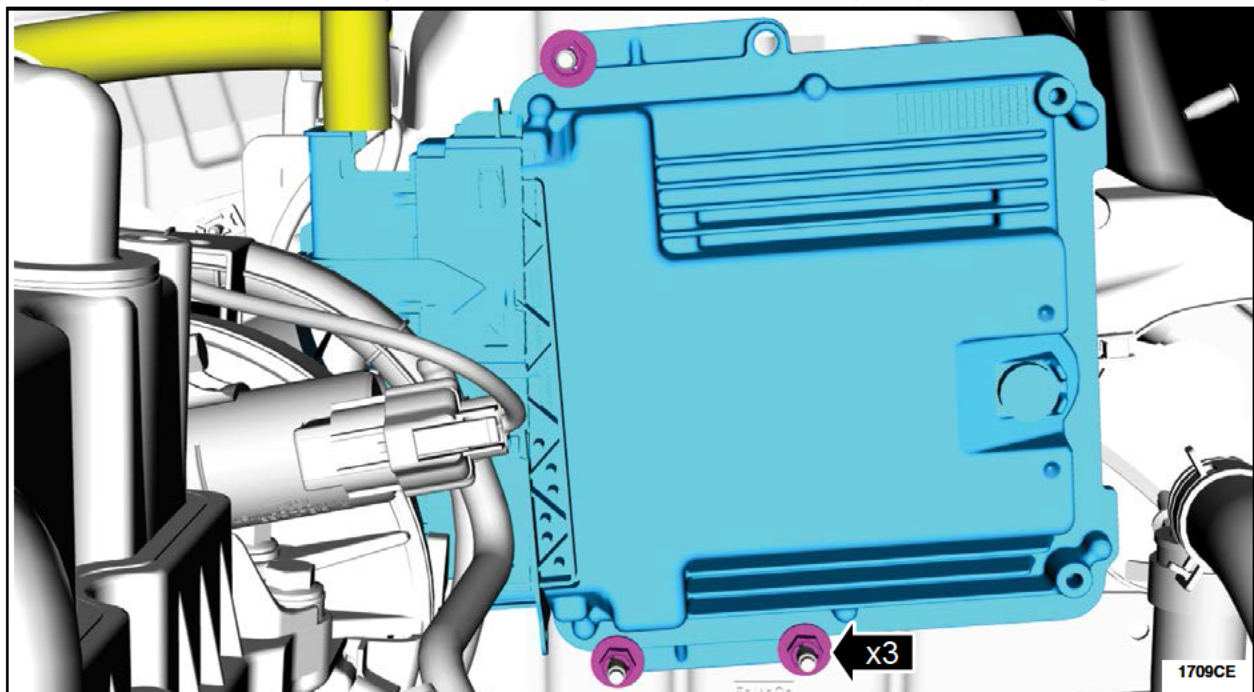

FIGURE A7
13. Remove the three nuts and position the Powertrain Control Module (PCM) aside. See Figure A7.